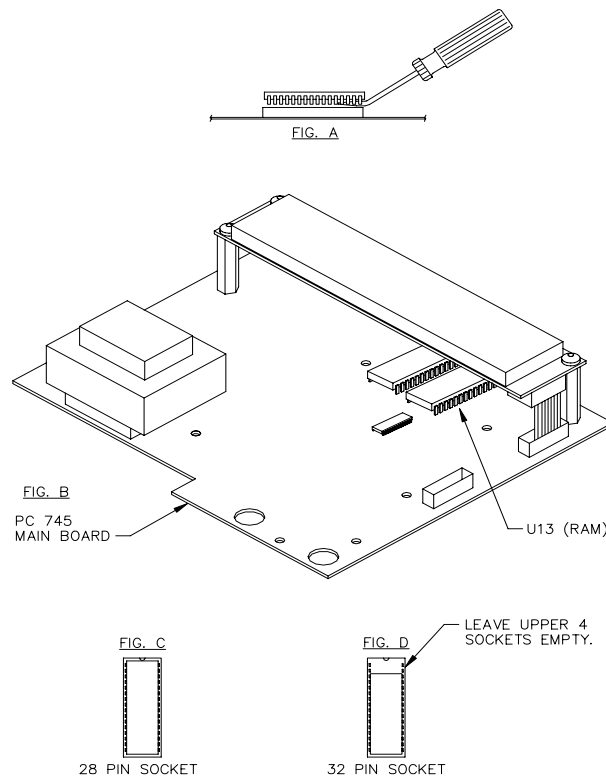

Figure 25 Time/Date Option Installation on Main Board
- Refer to figure 25, Time/Date Option Installation on the main board. Locate the U13 RAM IC on the main PC745 board. It is a large 28 pin IC located under the display module, near the display ribbon cable. (Refer to
Fig. B on Figure 25).
- Use a small screwdriver and carefully pry the chip up and out of its socket. Do this by sliding the end of the screwdriver between the chip and its socket and lifting up slightly, first at one end of the chip and then at the other end. Alternate the ends being pried until the chip is loose. Be careful where the screwdriver is placed so as not to pry the socket out of the board! (Refer to Fig. A on Figure 25).
pins. The module must be installed shifted toward the bottom of the socket. Refer to Fig. C on Figure 25.